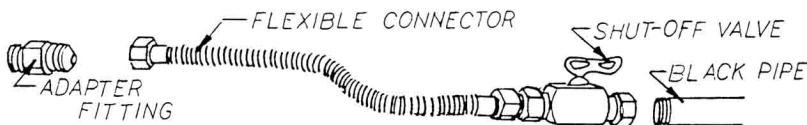

FIG. 12
7. Install, if local codes permit, a 3/8" flex connector 12" in length (24" in length, if the gas supply line is installed on the left side) with a 3/8" to 1/2" adapter and shut-off valve to the 1/2" gas line. Use a pipe wrench and joint compound. Tighten securely (Fig. 12).
8. Attach a 3/8" adapter fitting to the gas control valve using a wrench and pipe joint compound. Tighten securely (Fig. 12). Carefully bend the flex connector and make a good connection to the adapter in the gas valve. Tighten securely.